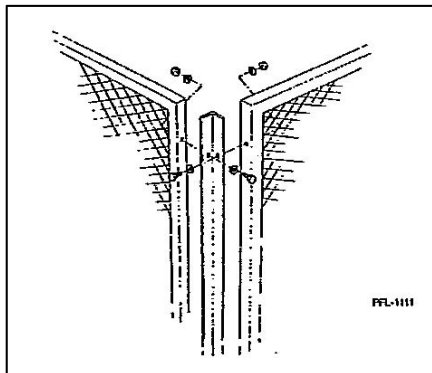

Figure 5
6. Corner angles are required for 90° attachment of panels. **See Figure 5.**